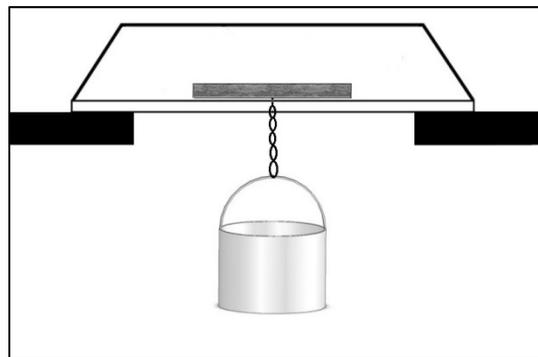

Figure 3. Example setup for bridge strength testing.
- Hang the provided pail from the hook on the wooden block. See Figure 3 for an example.